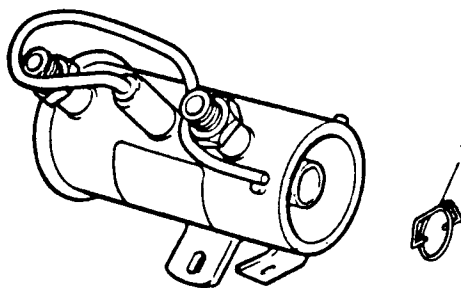

Fig C5.19
- (4) Refer to Fig C5.19. Replace the retaining ring (1).